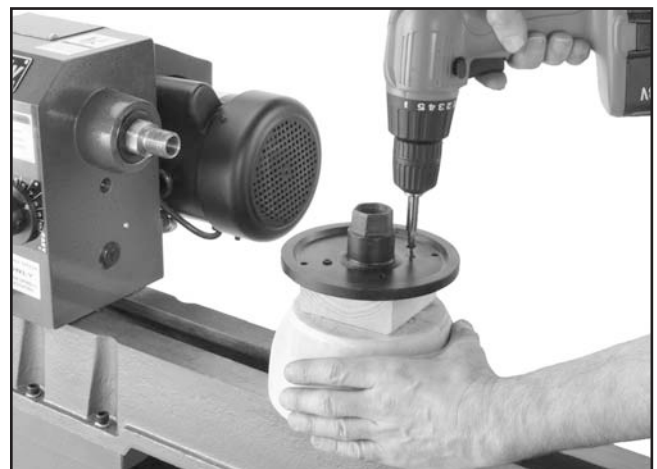

Figure 43. Typical attachment of faceplate to workpiece (shown with backing block).
2. Center the faceplate on the workpiece and attach it with wood screws that do not have tapered heads (see **Figure 43**).